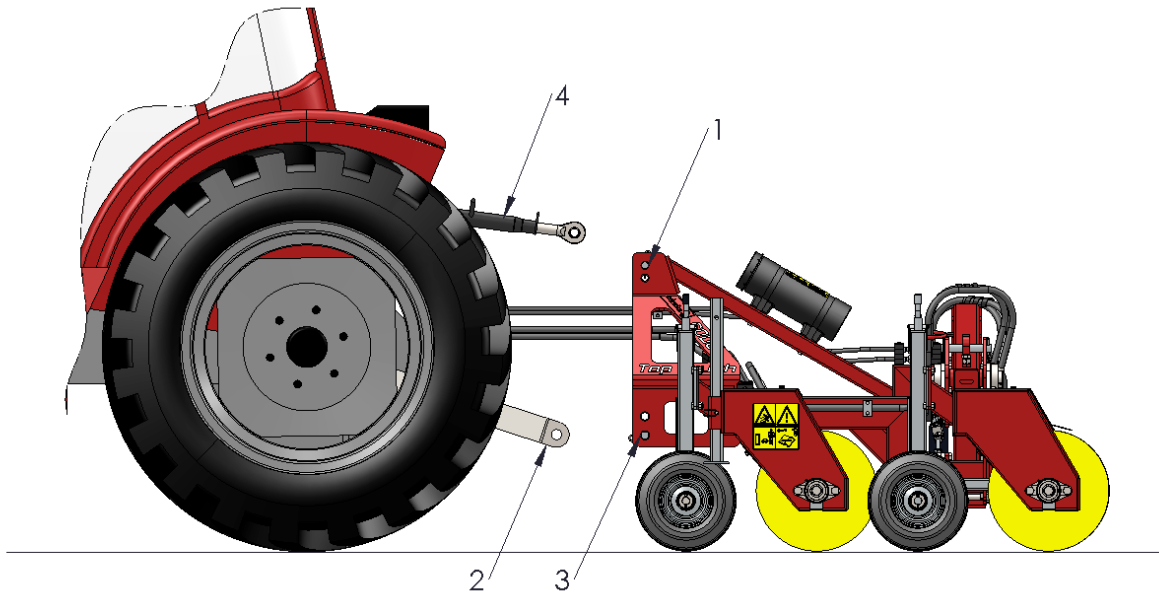

Figure 2
1. Remove the 3-point pins (1) at the top from the machine (see Figure 2).
2. Carefully drive the tractor backwards until the lifting arms (2) can be attached to the machine.
The machine should be detached in the following manner (see Figure 2):